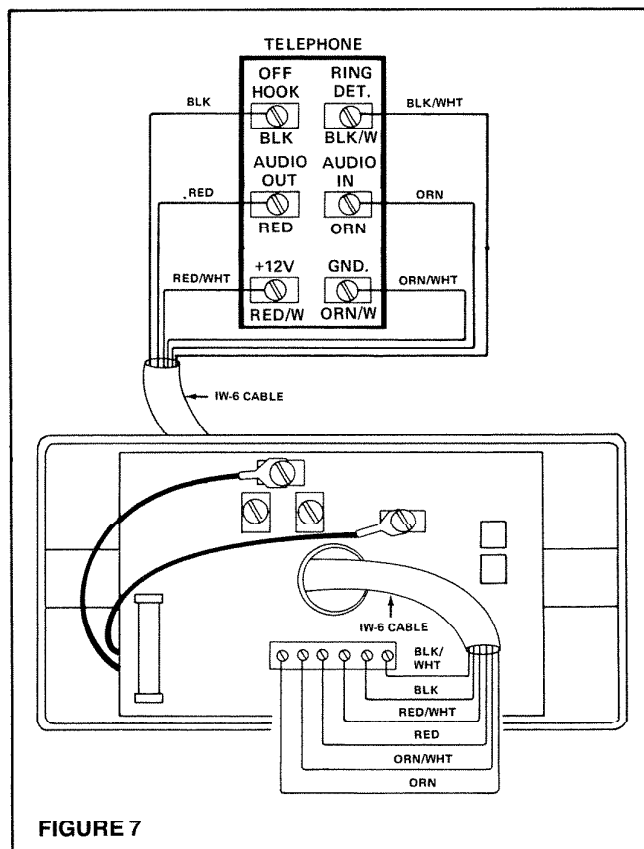

FIGURE 7
orange/white wire to the screw terminal marked **ORN/WHT**, etc. See Figure 7.
- At the IM-806 Series terminal board, connect the six (6) color-coded wires to the matching terminal screws in the **TELEPHONE** section of the terminal board. Connect the black wire to the terminal screw marked **BLK**; connect the black/white wire to the terminal screw marked **BLK/W**, etc. See Figure 7.